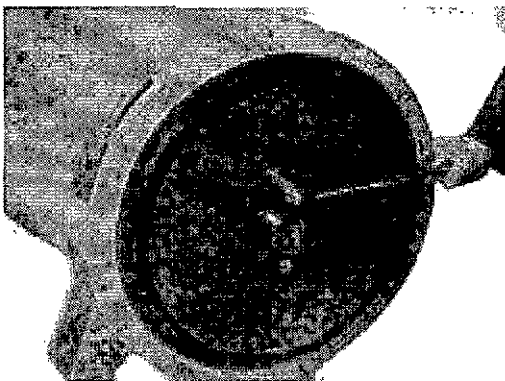

Figure 6-25
4. For single bearing generators, remove the cap screws and hardened washers holding the drive discs to the drive hub. (Figure 6-25.) Remove all drive discs (and spacers if any).